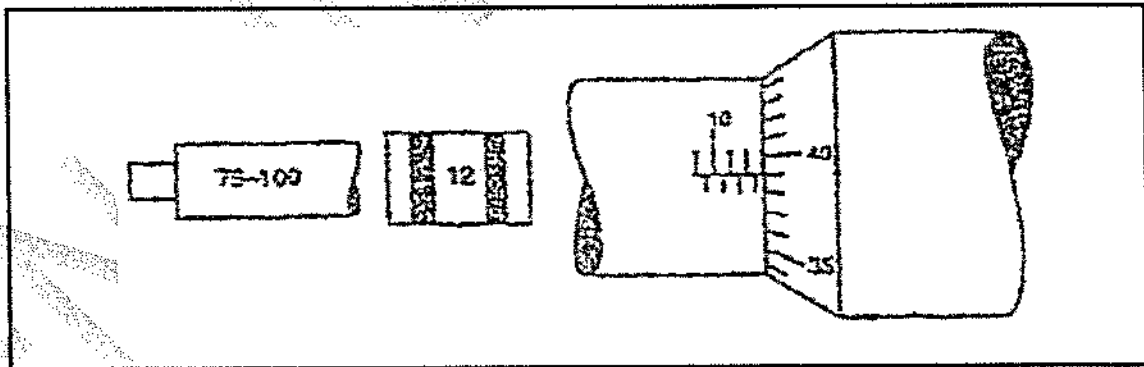

FIGURE 1
- 2.1 FIGURE 1 indicates a reading as seen on a metric inside micrometer.
- 2.1.1 Write the correct reading as seen in FIGURE 1.
- 2.1.2 Name the degree of accuracy of the measuring instrument in FIGURE 1.